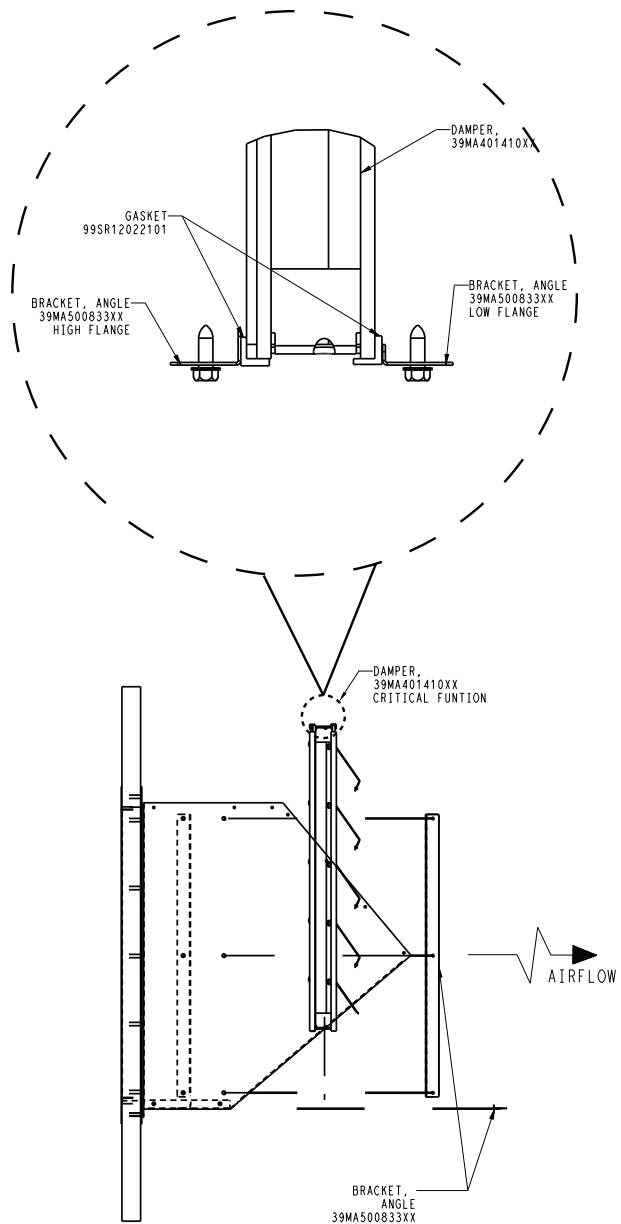

Fig. 74 — Installing the Damper
- Install damper (if ordered) as shown in the Fig. 74. Orient damper blades to open out (in the direction of exhaust air.) Attach the 3 outer angle brackets to the exhaust hood using the 1/4 in.-14 x 5/8 in. long sheet metal screws (without neoprene washer.) After installing the 3 outer brackets, make sure the damper moves freely.